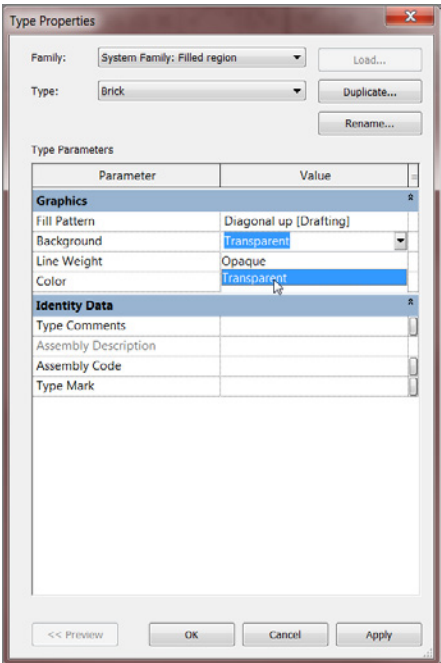

FIGURE 12.20: Changing the background to Transparent
16. Change the background from Opaque to Transparent, as shown in Figure 12.20.